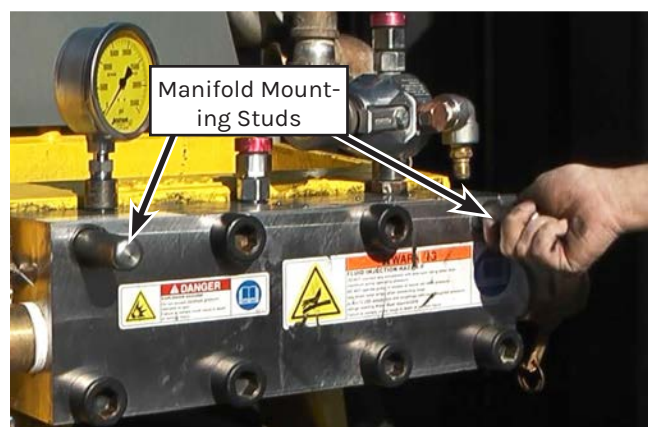

Figure 62: Manifold Mounting Stud Installation.
8. Install manifold mounting studs (Figure 62) into the two open holes to allow for easier installation of the new manifold.